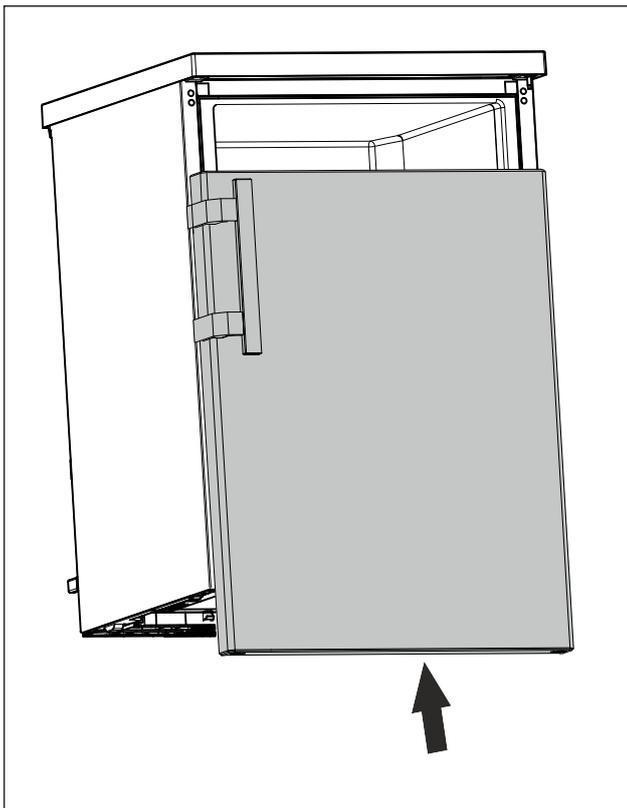

Fig. 24
- ▶ Slide the door onto the upper bolt when it is closed. (see Fig. 24)